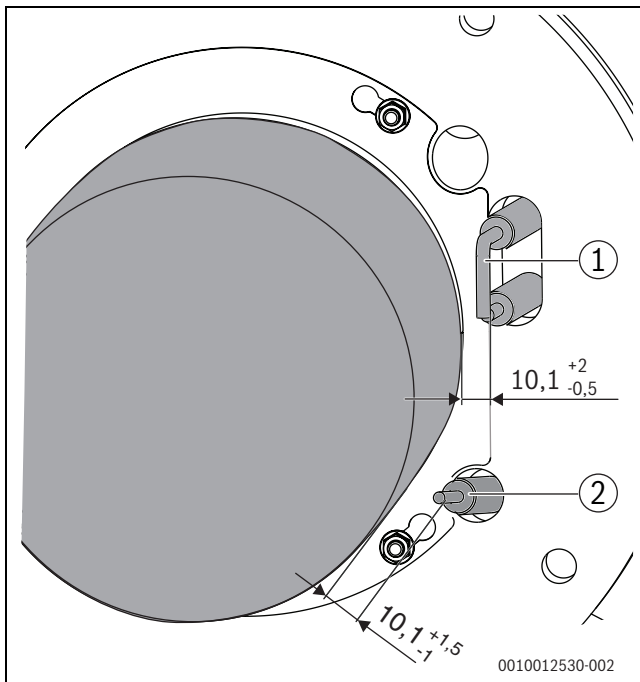

Fig. 68 Electrode position (dimension in mm)
- ▶ Check the gaps between the electrodes and compare them with those shown in Fig. 68.